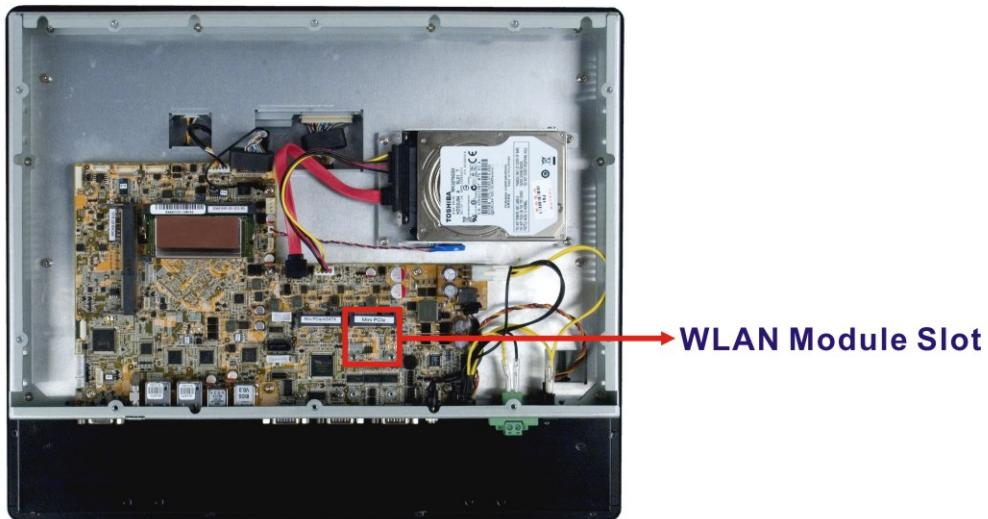

Figure 3-16: PCIe Mini Slot Location
Step 3: Locate the PCIe Mini slot (**Figure 3-16**).